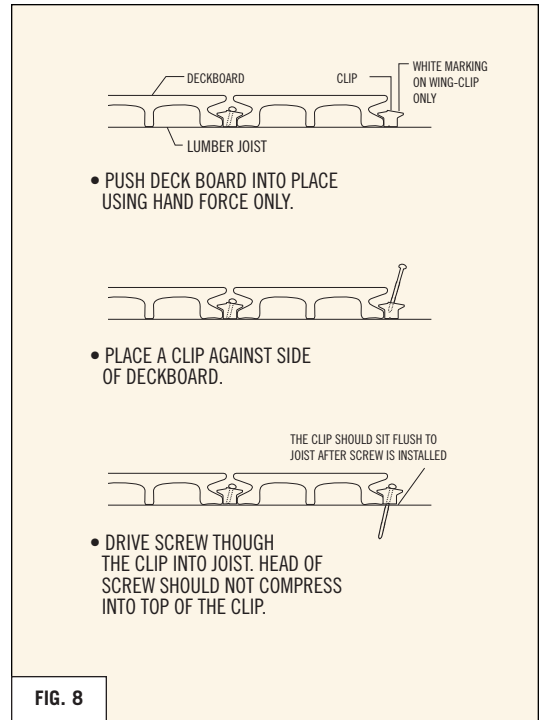

FIG. 8
- Do not use excessive force to push deck board into existing row of clip fasteners. Hand or leg force (or rubber mallet) is recommended. The use of board bending tools or "Bowrench" are not recommended as this may cause too much friction as they can easily apply excessive sideways force on the deck board. (REFER TO FIG. 8)